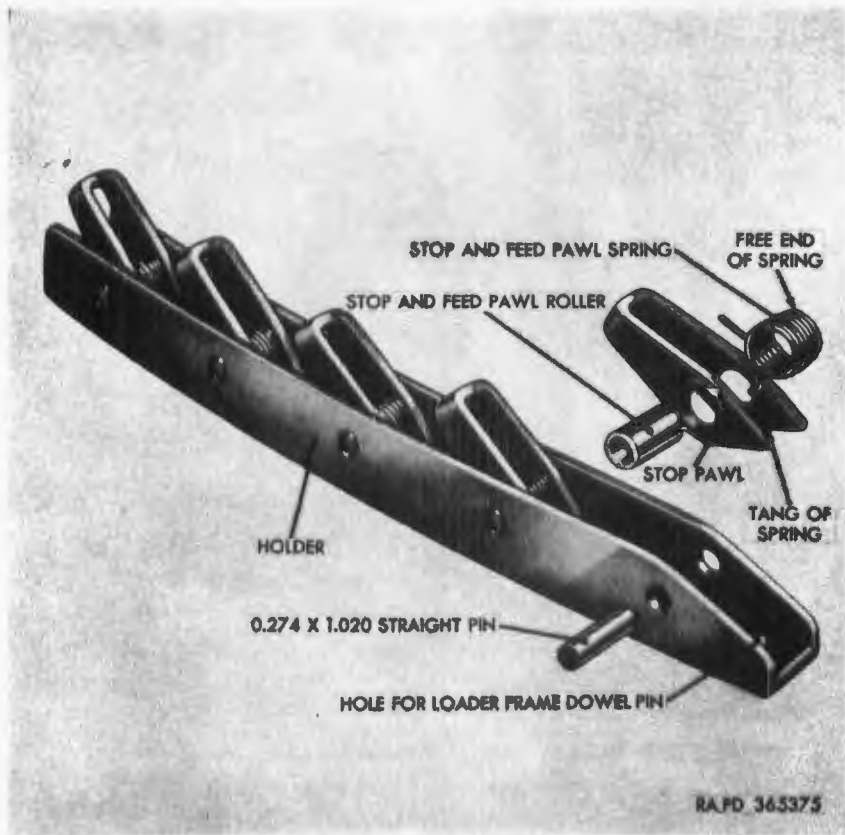

Figure 329. Stop pawl holder assembly—partially exploded.
- (c) Drive out pin and remove roller, spring, and pawl from the holder (fig. 329). Replace damaged parts.
- (d) Position spring (fig. 329) between arms of pawl so that tang of spring engages small hole in arm of pawl.
- (e) Insert roller (fig. 329) through holes in arms of pawl and through the spring.
- (f) Rotate spring (fig. 329) so that free end of spring is on underside and points toward closed end of pawl. Lower the unit into pawl holders. Arms of pawl should point toward the hole for the loader frame dowel pin (fig.
- (g) Aline holes of holder and roller and drive in the 0.274 x 1.020 straight pin (fig. 329).